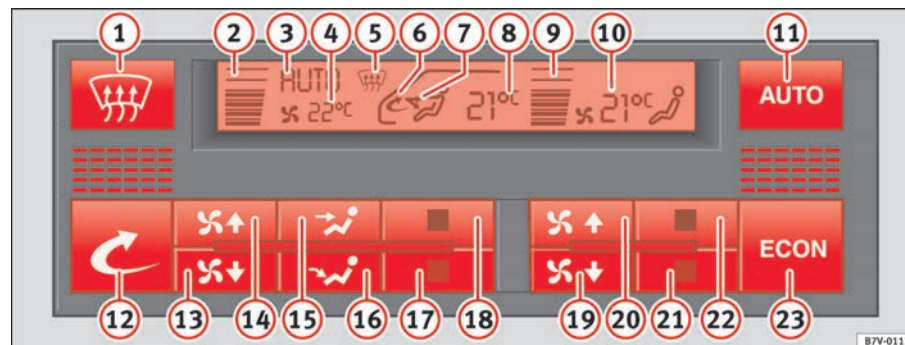

Fig. 120 Instrument panel: Climatronic controls
- The temperature is selected with buttons ⇒ fig. 120 (21) and (22). It remains stored until another temperature is selected.